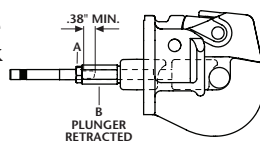

Figure 1
3. Use (6) .75" grade 8 fasteners, properly tightened.
- A. Loosen cylinder rod jam nut (A) as shown in Figure 1.
- B. Turn the plunger rod (B) out (counterclockwise) a distance equal to the difference between your mounting structure thickness and 1".
- C. Retighten cylinder rod jam nut (A) securely.
8. Check the plunger adjustment. When properly adjusted, the plunger should tightly grip a 1.25" round bar (or plunger adjustment tool TF-03147) when energized (see Figure 1) and retract far enough when de-energized to allow easy removal of the drawbar.